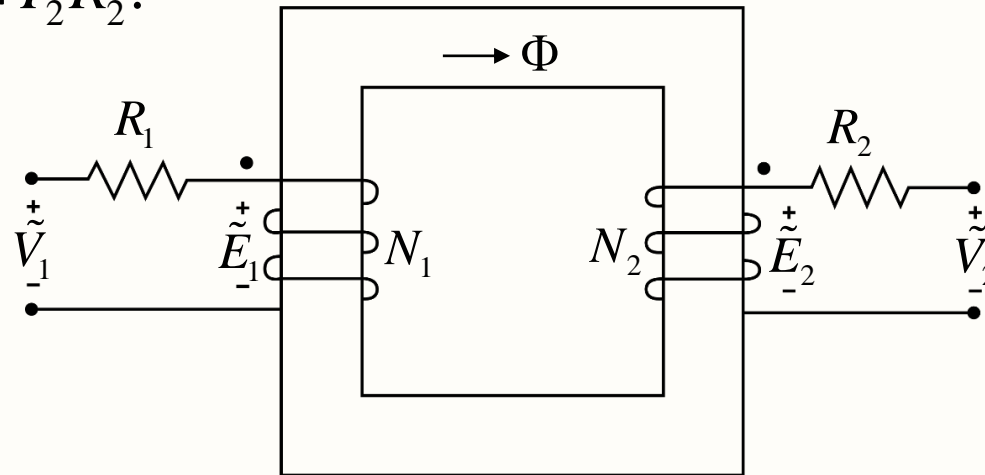

Fig. 9. A practical transformer.
- Both the windings, primary and secondary, have resistances R_1 and R_2 associated with them (see Fig. 9), which incur power losses of $I_1^2 R_1$ and $I_2^2 R_2$, and voltage drops of $I_1 R_1$ and $I_2 R_2$.